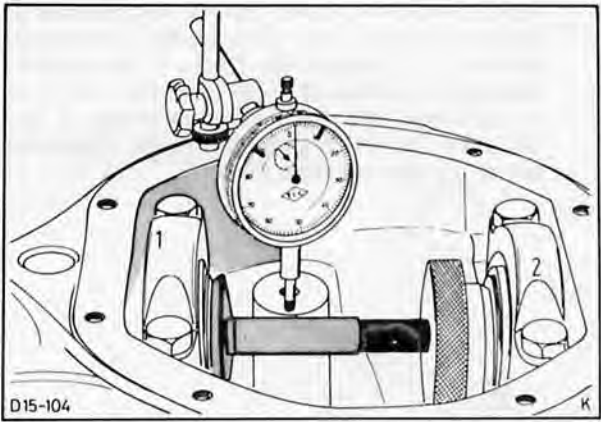

Fig. 73. Adjust master pinion special tool no. 15-020
21. Set up master pinion. To do this, position dial indicator on outer edge of end of master pinion close to the gauge bar, Fig. 73. Rotate gauge bar another full turn and note total deflection on indicator. Then continue turning master pinion until dial indicator reading is half the total deflection measured. After this, the master pinion must not be moved.